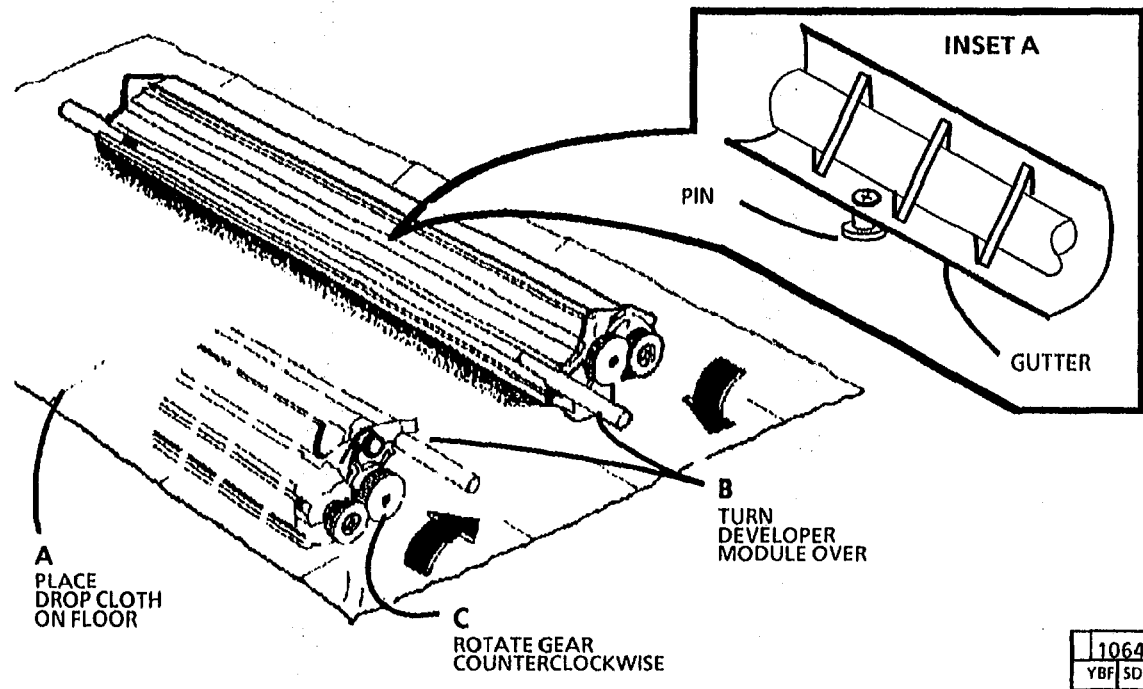

Figure 2. Dump the Developer Material
1. Figure 2, INSET A): (2515) Check that the gutter is secured to the pin with a screw or clip. If not, install the gutter clip.